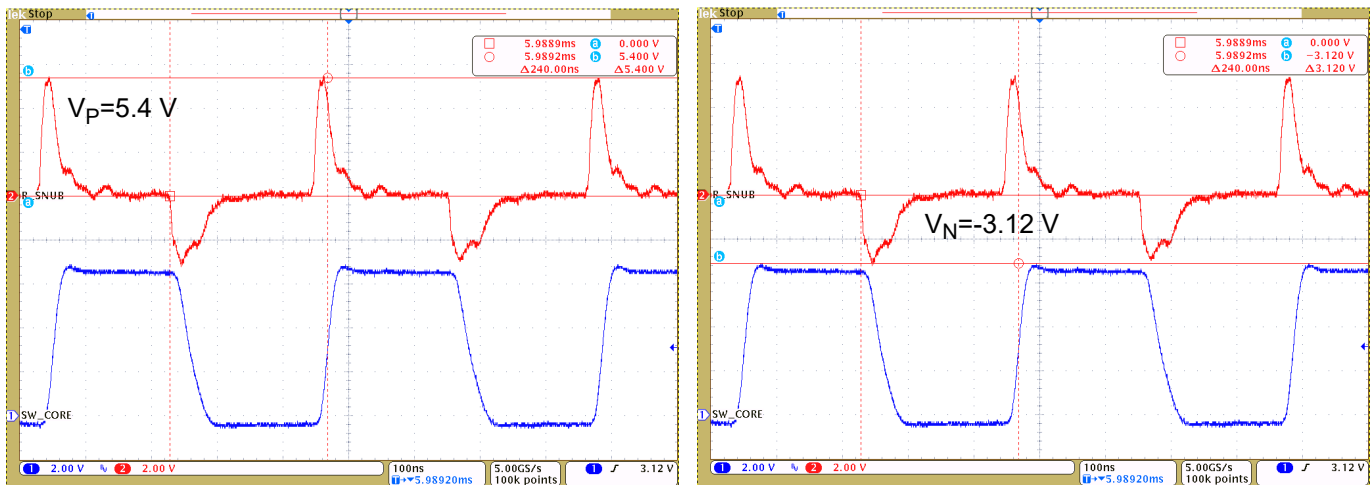

Figure 17. VCORE RSNUB VP and VN measurement (on KIT33908AEEVBE)
- From Figure 17,  $P(R_{SNUB\_VPRE}) = 1/2 * 4.7$  nF \* (5.42 + 3.122) \* 2.4 MHz = 0.219 W.